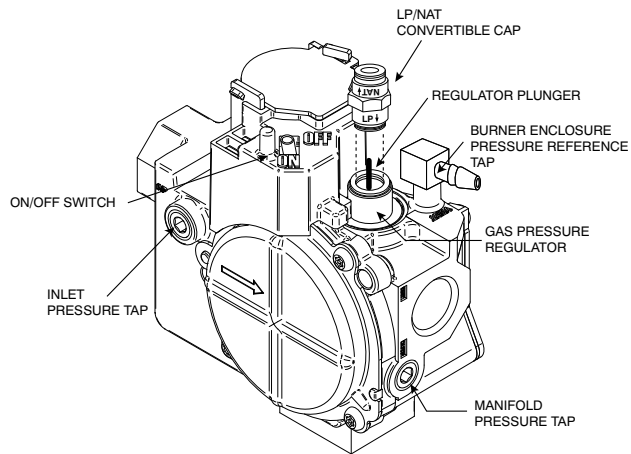

Fig. 3 - Redundant Automatic Convertible Gas Valve
7. Remove burner box pressure tube from gas valve burner enclosure reference pressure tap fittings. (See Fig. 3.)
- g. Remove burner enclosure pressure tube from gas valve burner enclosure reference pressure tap fittings. (See Fig. 3.)
- n. Remove 1/8-in. (7 mm) pipe plug from inlet pressure tap on gas valve. (See Fig. 3). DO NOT DISCARD PLUG!